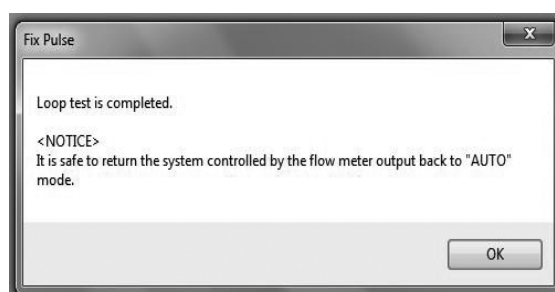

Fig. 3-56
- (5) By clicking "Stop" button, the message box (Fig. 3-56) will be displayed. Click "OK" button.